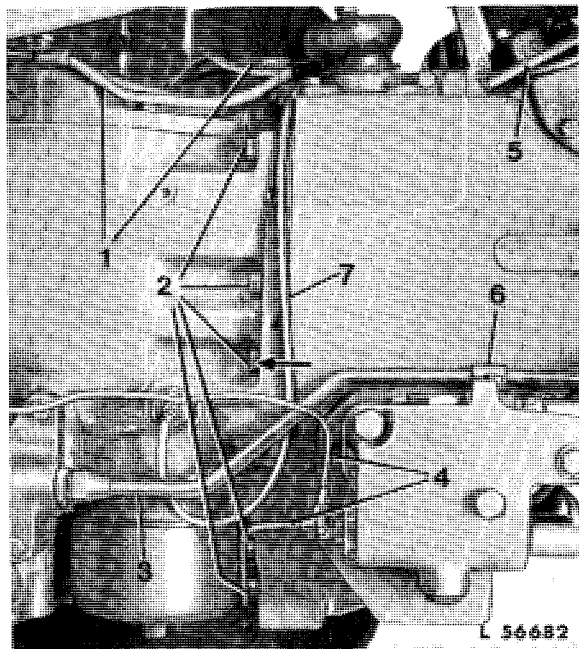
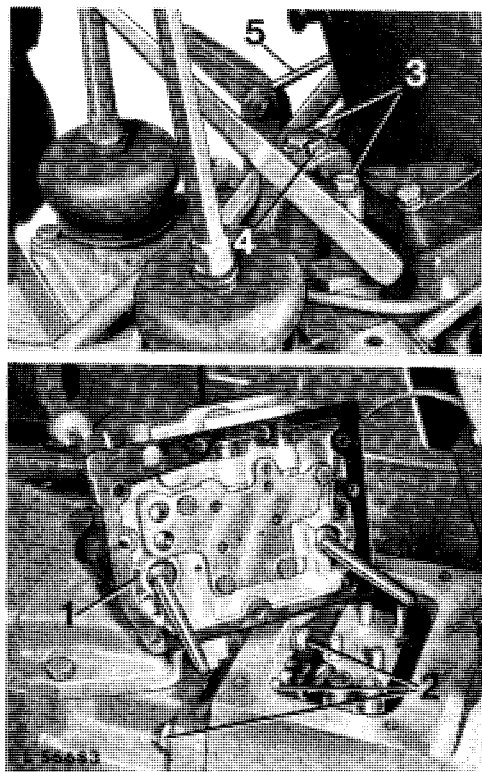

Fig. 6 — Separating between Clutch Housing and Transmission Case, R.H. Side
Fig. 7 — Removing Gear Shift Cover
Disconnect hydraulic oil reservoir leak-off and bleed line 5 (fig. 6) at transmission shift cover.
*On tractors equipped with a hydraulic trailer brake:* Disconnect pressure line of trailer brake valve at pressure line 3 (fig. 6).
Remove clamp 6 (fig. 6) and hydraulic pump pressure line 3.
Disconnect brake line 4 (fig. 6) at brake valve.
*On tractors equipped with HIGH-LOW shift unit:* Disconnect transmission oil pressure warning switch cable 7 (fig. 6). Remove screws 3 (fig. 7). Disconnect connecting rod 5 from lever shaft and remove cover 4 complete with lever shaft and control arm.
*On tractors equipped with independent PTO:* Before removing cover 4 (fig. 7), move PTO shift lever in engaged position. After cover 4 has been removed, do not move PTO shift lever otherwise lock balls and springs will drop out of cover.
Remove cap screws 2 (figs. 6 and 7) securing clutch housing to transmission case, and separate clutch housing from transmission case.
*NOTE: Before inserting the third retaining screw in clutch housing (see arrow, fig. 6) coat it with a film of oil-resistant sealant.*